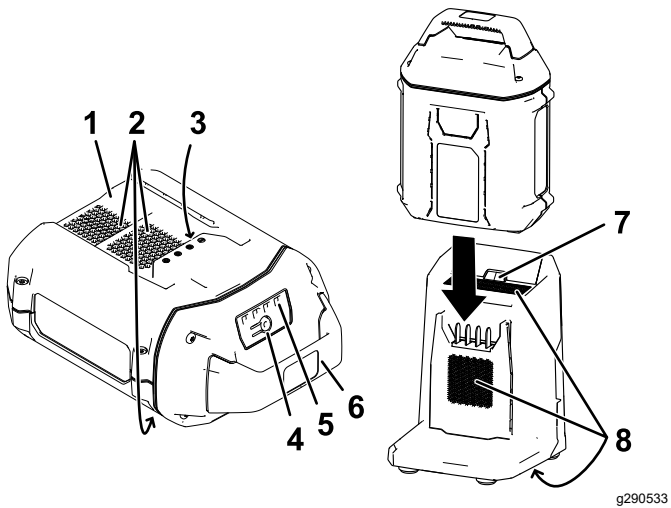

Figure 12
2. Line up the cavity in the battery pack (Figure 12) with the tongue on the charger.
4. Slide the battery pack into the charger until it is fully seated (Figure 12).